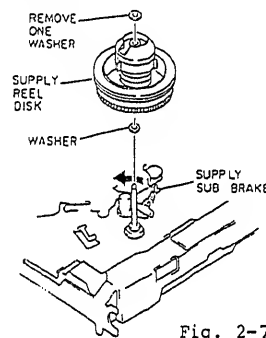

Fig. 2-70
1. Remove one (1) washer holding the supply reel disk. (See Fig. 2-70)